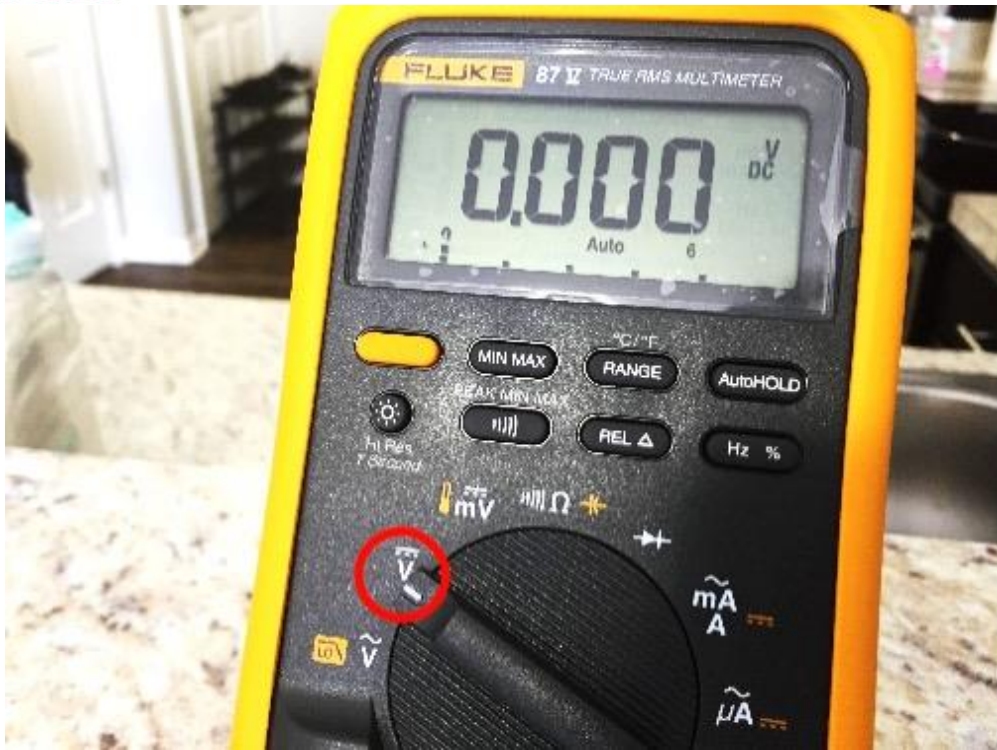

Figure 10: Digital multimeter set to DC voltage setting
- Use a digital **multimeter** set to DC voltage for the next step; multimeter models may differ, but the symbol indicating the DC voltage setting is standard (see Figure 10).